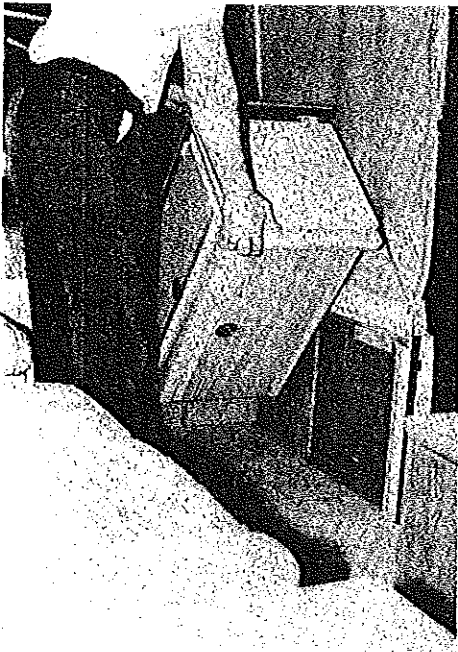

FIGURE 19
22. Grasp the closet and raise the assembly until vertical. (See Figure 19)